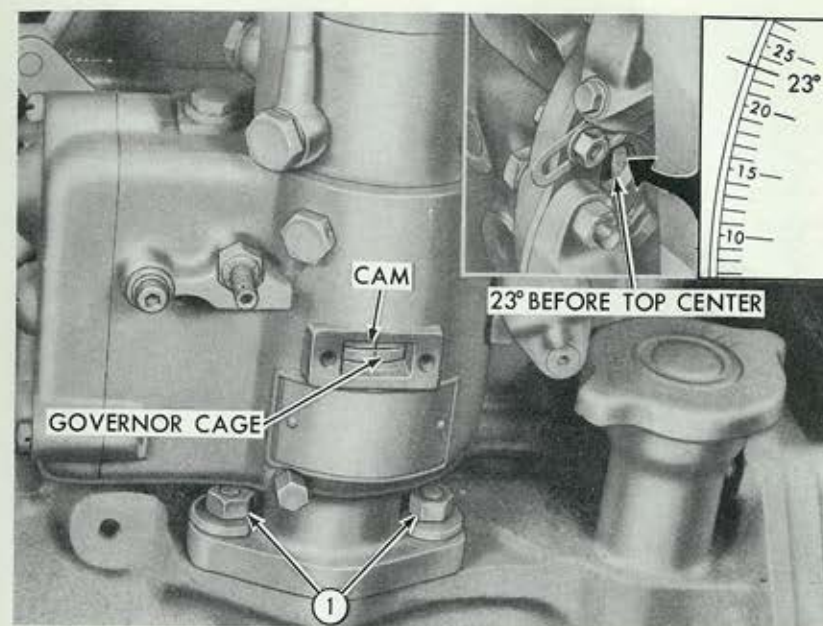

Figure 38
Pump-to-Engine Timing: Remove the timing window cover and gasket on the fuel injection pump and rotate the engine until the timing marks align as shown in Figure 38. Remove the engine flywheel timing cover and check the flywheel degree marking, which should read 23° BTDC as shown in the Insert, Figure 38. If it does not, adjustment will have to be made.
To adjust, use a screwdriver on the flywheel ring gear to reverse the engine approximately 15° BTDC. Return the flywheel position back to the correct marking as outlined above. This procedure will remove the backlash from the pump drive. Loosen the pump housing at (1), Figure 38, and rotate the pump assembly until the timing marks align. Retighten the pump assembly nuts. Check the timing by rotating the engine until the alignment marks again align. If the proper timing has not been obtained, repeat the process.